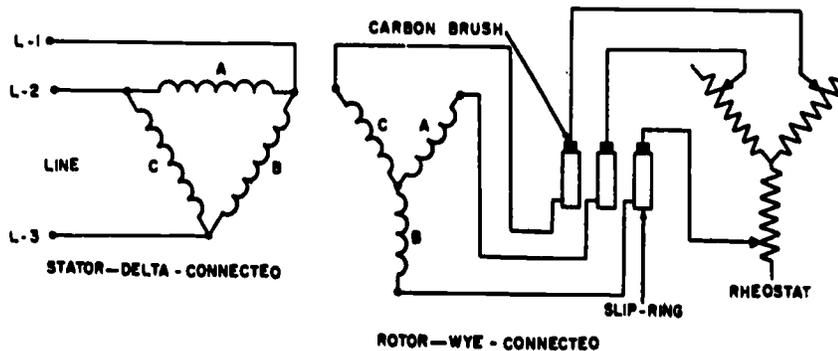

Fig 4-40. Schematic of a three-phase slipring induction motor.
The THREE-PHASE AC INDUCTION MOTOR is also called a squirrel cage motor. The rotating magnetic field of the three-phase motor operates in the same manner as a two-phase motor. The difference between a two-phase and a three-phase motor is in the windings. The two-phase windings are placed  $90^\circ$  apart where, the three-phase windings instead are placed  $120^\circ$  apart. This means that the currents that produce the magnetic field reach a maximum  $1/180$  second apart in a 60 cycle circuit. Notice figure 4-40 which shows the connection of a wye connected stator in a three-phase induction motor. The rotor of the motor is represented by the compass needle, which points in the direction of the magnetic field and revolves as the magnetic field revolves. The individual current waves are shown along the phase wires as they actually are during operation. Notice the current in phase A reaches a maximum at position 1 and at that instant the currents in phases B and C are both negative.
The three-phase slipring (wound rotor) induction motor is wound with a three-phase drum winding. The windings are connected WYE (Y) or DELTA (a wye connection is shown in figure 4-40), and the three leads are brought out and connected to three electrical contact rings (sliprings) which are secured to the shaft. Brushes riding on the rings are connected to an external resistance through which the rotor circuit is completed. Motors containing wound rotors have a high starting torque with low starting current plus adjustable speed.